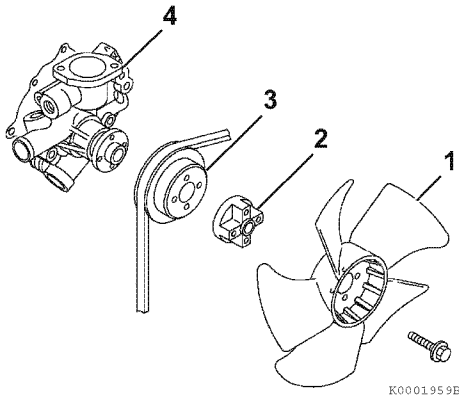

Figure 9-4
1. Remove the engine cooling fan guard (if equipped), engine cooling fan (**Figure 9-4, (1)**), spacer (**Figure 9-4, (2)**), engine coolant pump V-pulley (**Figure 9-4, (3)**) and V-belt.